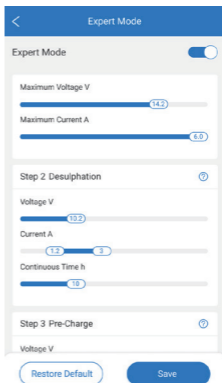

Figure 3.3.3
4. If the DIY Mode couldn't meet your needs, you can select the Expert Mode. In which, you can customize the charging mode even further. Meet your charging requirements by setting the voltage, current, duration and number of cycles for each charging step. (See figure 3.3.3)